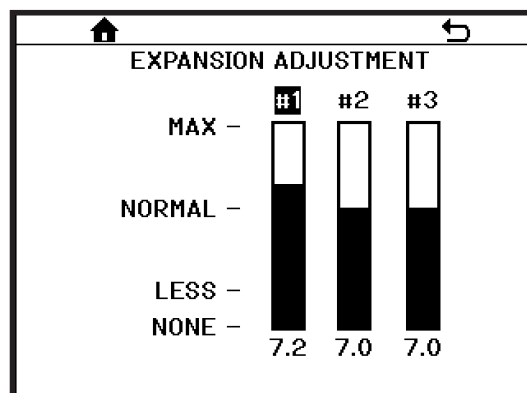

Figure 7.21
- **EXPANSION ADJUSTMENT:** Used to adjust the amount of gas in a drink (Figure 7.21). The range of values is limited based on the configured gas and drink type.
**EXPANSION ADJUSTMENT (Figure 7.21)** - The amount of gas in the drink can be adjusted in this menu. The adjustment ranges from “MAX” (high levels of gas, high expansion) to “LESS” (lower levels of gas, low expansion). Select the barrel number and adjust the bar graph up or down.